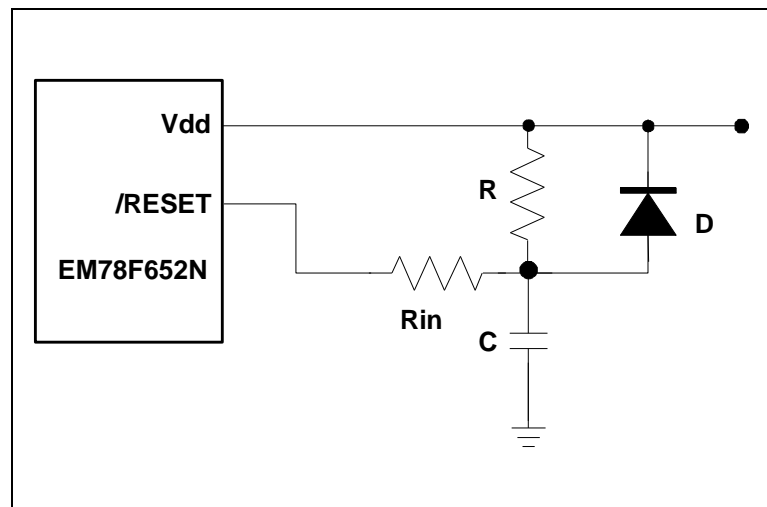

Fig. 6-37 External Power-up Reset Circuit
The circuit shown in Fig 6-37 uses an external RC to produce a reset pulse. The pulse width (time constant) should be kept long enough for V_{dd} to reached minimum operation voltage. This circuit is used when the power supply has slow rise time. Because the current leakage from the /RESET pin is $\pm 5\mu\text{A}$, it is recommended that R should not be greater than 40K. In this way, the /RESET pin voltage is held below 0.2V. The diode (D) functions as a short circuit at the moment of power down.